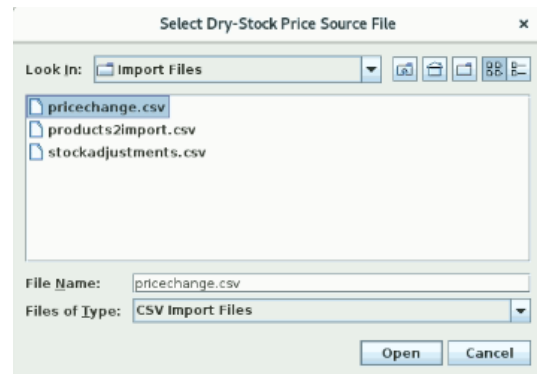

Figure 53: Importing a Dry Stock Price Update
2. After the import process finishes, a summary is displayed (Figure 53).